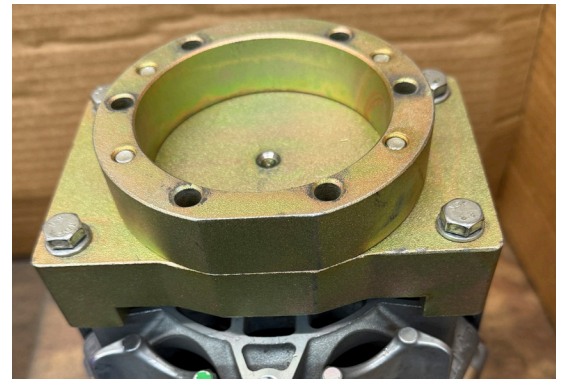

Fig 2
1. Place the primary clutch on a flat, stable surface and mark the edges of the 3 assembly pieces as shown in figure 2. This is important so you can reassemble the clutch in the proper orientation.
2. Place the EPI EZCST2 plate on top of the clutch, as shown in figure 2, with the cup of the tool facing up. Thread the 4 included bolts with washers through the tool and into 4 of the threaded holes of the clutch. See figure 2. You only need to snug these 4 bolts down.